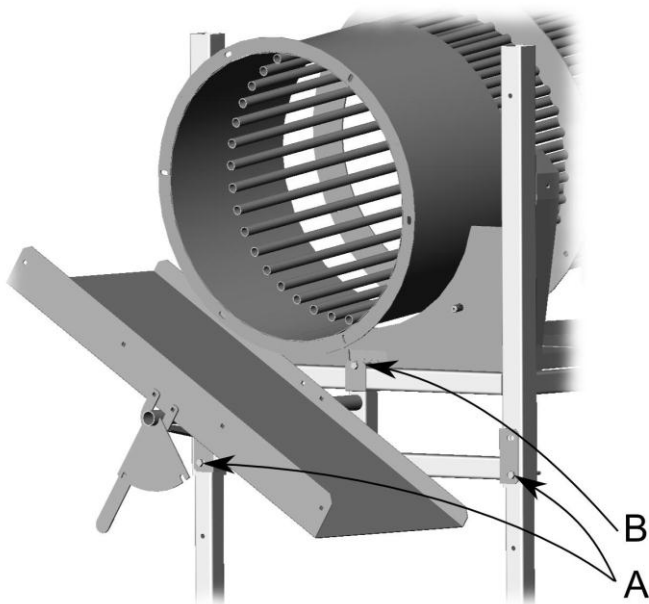

Fig. 2.
- Fix the hexagon bolts A (Fig. 2) to the same holes for the height adjustment of the legs.